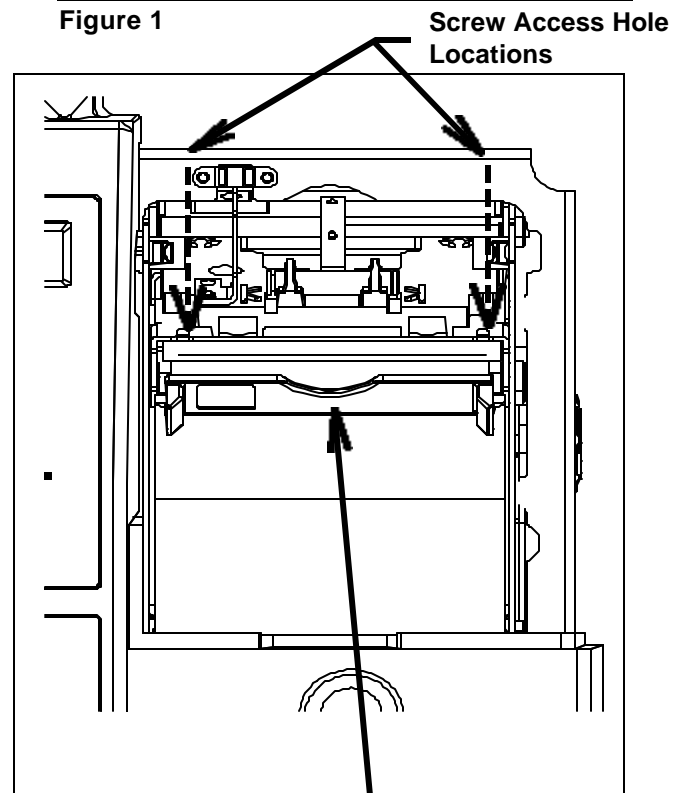

Figure 2
6. Open the Zone 2 access door (Figure 2).
7. Using the Screw Access Hole Locations, loosen (but do not remove) the two screws securing the printhead (Figure 2).